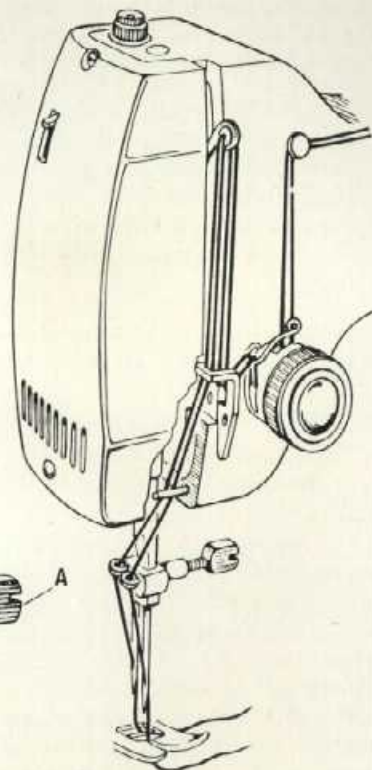

Fig. 108
- 6) When sewing with the double needle, the machine must be threaded as illustrated in Fig. 108.